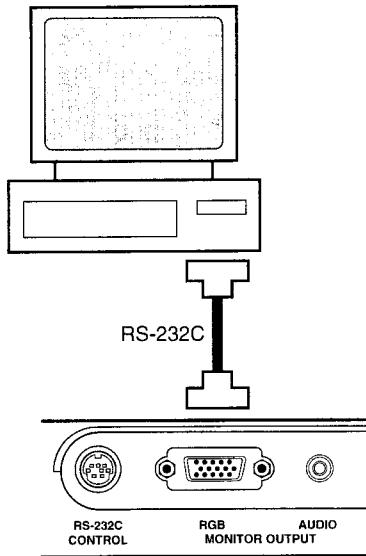

Fig. 1-4-1
- 1) Connect a computer as shown in Fig. 1-4-1, and then perform the adjustment using the adjustment software TLP65CTL.S.EXE. (When using a drive C, type C:\TLP65CTL.S.EXE and press enter key.)